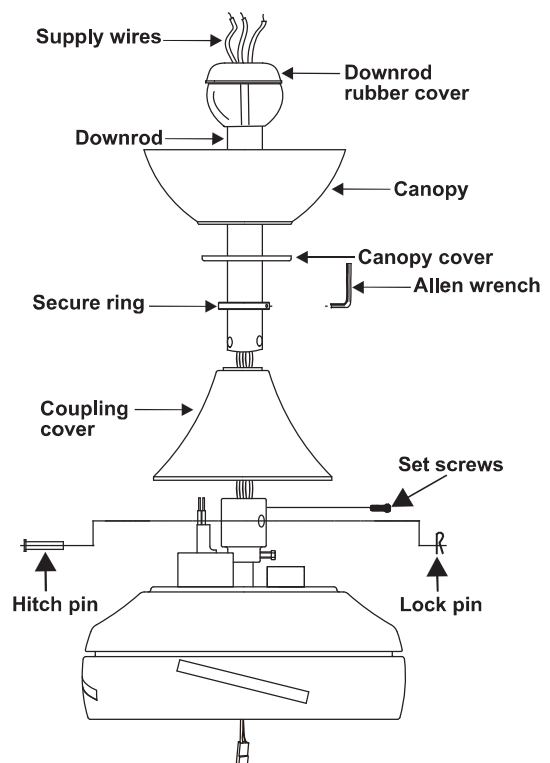

Figure 7
4. Loosen the two set screws and remove the hitch pin and lock pin from the central shaft/top coupling of the motor assembly. Doing so will allow the down rod to enter the central shaft. (Fig. 7)
5. Route wires exiting from the top of the fan motor through the coupling cover, secure ring, canopy cover and canopy and then through the ball/downrod. (Fig. 7)
6. Align the holes at the bottom of the downrod with the holes in the collar on top of the motor housing. Carefully insert the hitch pin through the holes in the collar and downrod. Be careful not to jam the pin against the wiring inside the downrod. Insert the lock pin through the hole near the end of the hitch pin until it snaps into its locked position. (Fig. 7)